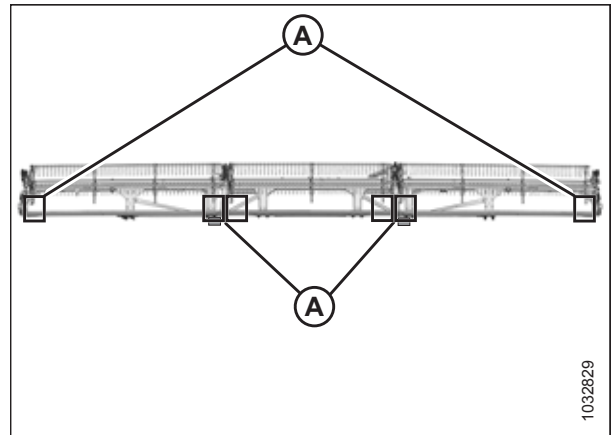

Figure 5.303: FlexDraper® Measurement Locations – Triple Reel
- Figure 5.303, page 575 – triple reel